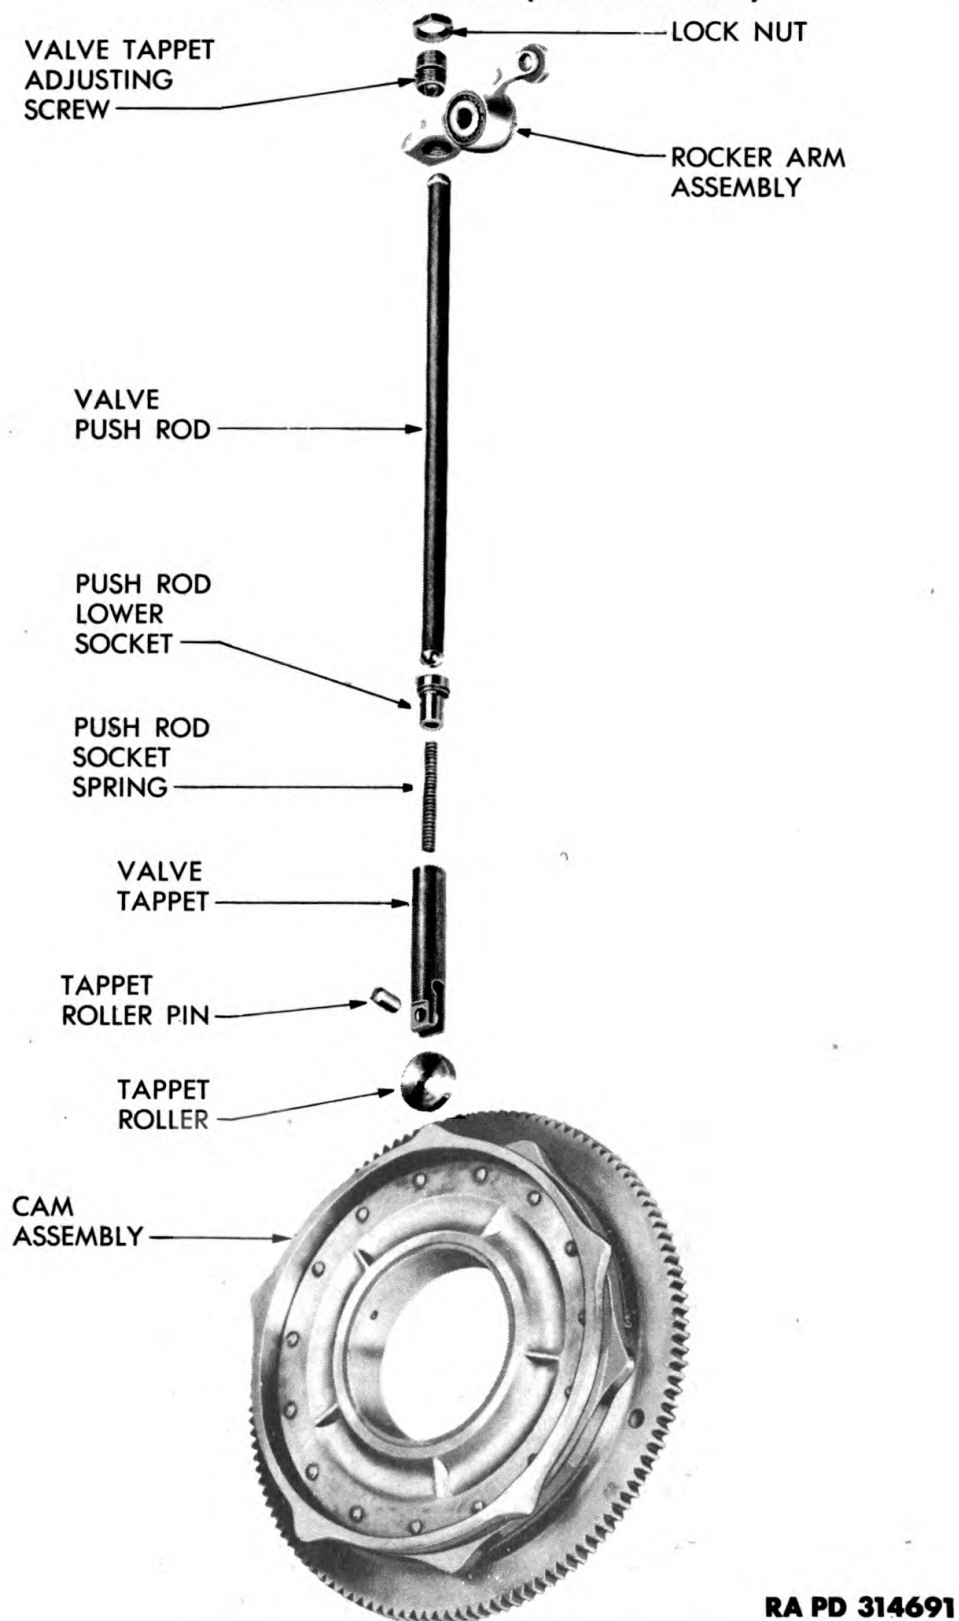

Figure 235 – Valve Operating Mechanism
j. Install Push Rods. Lubricate each push rod (fig. 235) and install them, one at a time, through rocker box and into push rod housing (fig. 47). Push each rod against push rod spring and socket (fig. 235) to test the spring action, to make sure the push rod end is properly seated in the socket, and that the socket is in position in valve tappet guide. Install each push rod in same way.